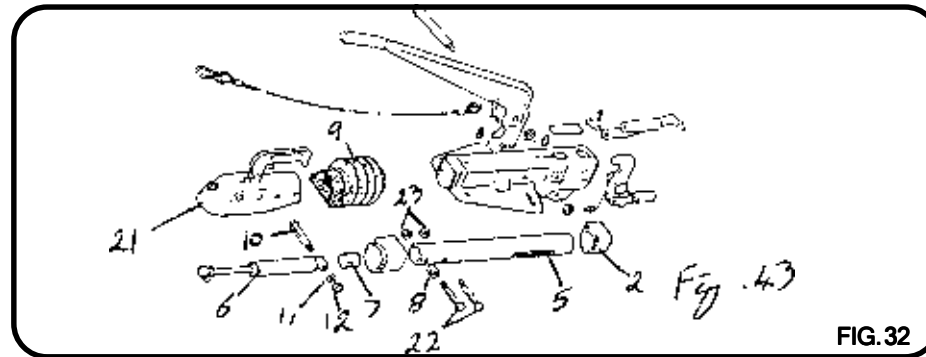

FIG. 32
**2.17 Change an overrun damper on types 161S/251S (Fig. 32)**